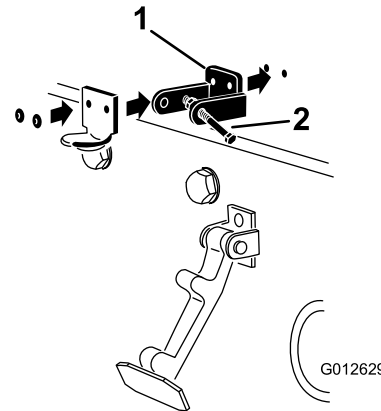

Figure 7
3. While aligning the mounting holes, position the CE lock bracket and the hood latch bracket onto the hood. The lock bracket must be against the hood (Figure 7).
5. Rivet the brackets and the washers to the hood (Figure 7).